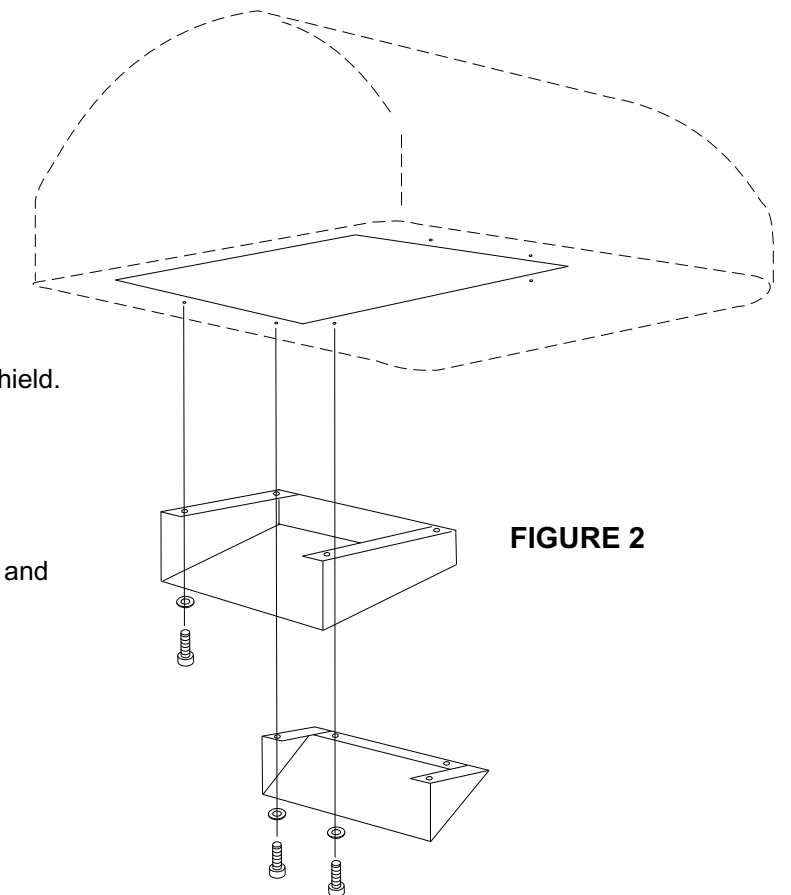

FIGURE 2
1. Position shield on housing and mark drilling locations - using drill points when possible - through slotted holes in shield. See Figure 2.